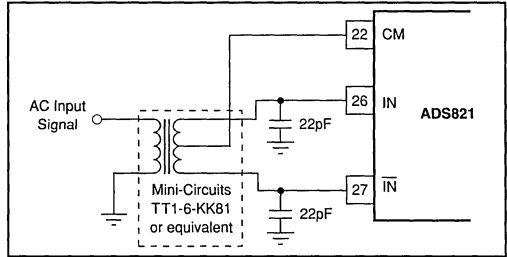

FIGURE 5. AC-Coupled Single-Ended to Differential Drive Circuit Using a Transformer.
differential output is created on the secondary if the center tap is tied to the common-mode voltage (CM) of +2.25V per Figure 5. This transformer-coupled input arrangement provides good high frequency AC performance. It is important to select a transformer that gives low distortion and does not exhibit core saturation at full scale voltage levels. Since the transformer does not appreciably load the ladder, there is no need to buffer the common-mode (CM) output in this instance. In general, it is advisable to keep the current draw from the CM output pin below 0.5μA to avoid nonlinearity in the internal reference ladder. A FET input operational amplifier such as the OPA130 can provide a buffered refer-